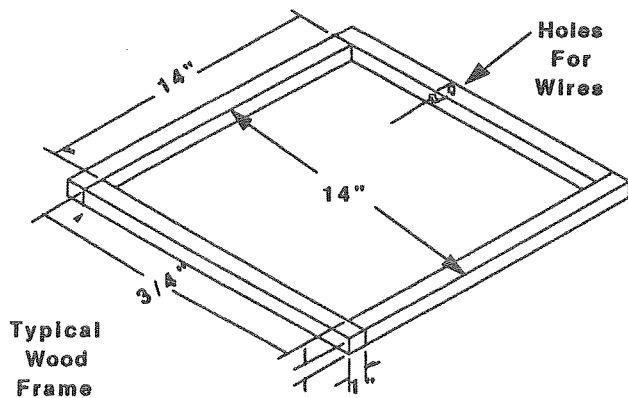

FIGURE 1
R.V. Products recommends that the spacing from the vehicle roof top to the interior ceiling top be no less than 3/4". A typical support frame is shown in Figure 1.